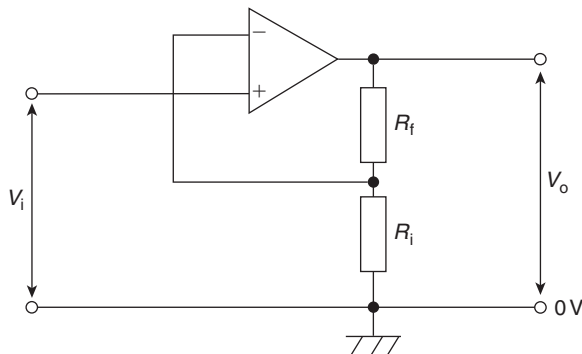
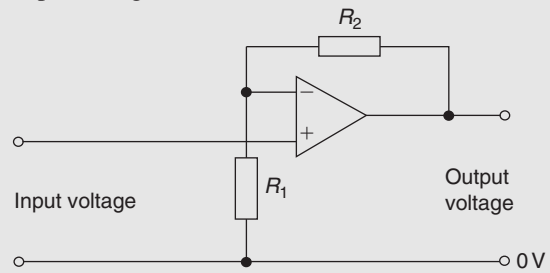
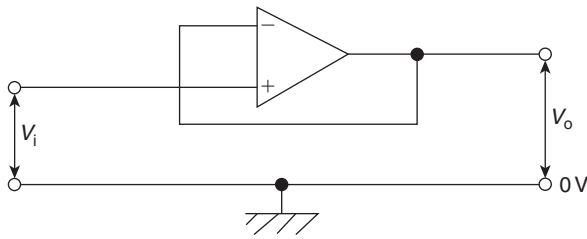

Figure 19.8
Figure 19.9
Figure 19.10
The basic circuit for a non-inverting amplifier is shown in Fig. 19.8 where the input voltage  $V_i$  (a.c. or d.c.) is applied to the non-inverting (+) terminal of the op amp. This produces an output  $V_o$  that is in phase with the input. Negative feedback is obtained by feeding back to the inverting (-) terminal, the fraction of  $V_o$  developed across  $R_i$  in the voltage divider formed by  $R_f$  and  $R_i$  across  $V_o$ .
In Fig. 19.8, let the feedback factor,
**Problem 7.** For the op amp shown in Fig. 19.9,  $R_1 = 4.7\text{ k}\Omega$  and  $R_2 = 10\text{ k}\Omega$ . If the input voltage is  $-0.4\text{ V}$ , determine (a) the voltage gain, (b) the output voltage.
The op amp shown in Fig. 19.9 is a non-inverting amplifier, similar to Fig. 19.8
The **voltage-follower** is a special case of the non-inverting amplifier in which 100% negative feedback is obtained by connecting the output directly to the inverting (-) terminal, as shown in Fig. 19.10. Thus  $R_f$  in Fig. 19.8 is zero and  $R_i$  is infinite.
The circuit of Fig. 19.10 is called a voltage-follower since, as with its transistor emitter-follower equivalent,